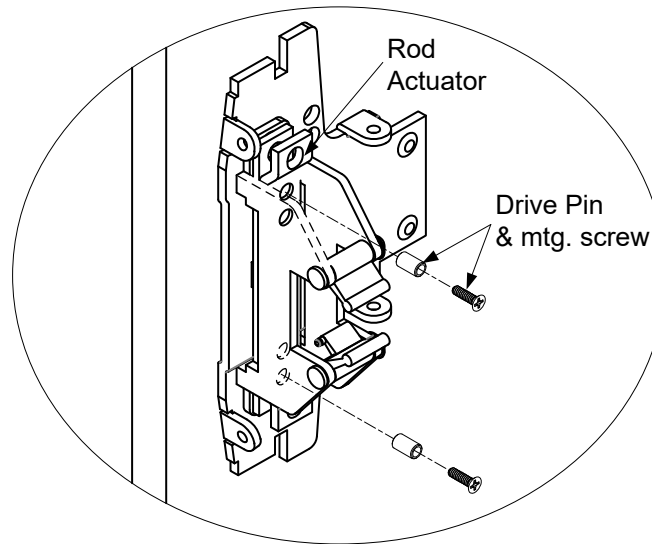

Figure 4
2. Fasten the Drive Pin into both sides of Rod Actuator as shown in Figure 4.